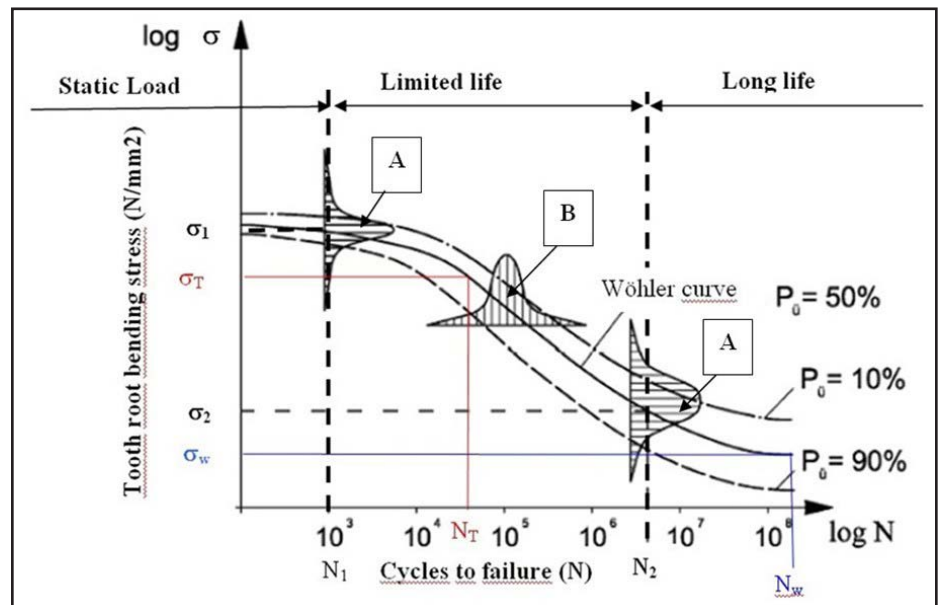

Figure 1 A Wöhler Curve diagram showing its three typical sections: Static Load; Limited Life; Long Life.
As a starting point, the Wöhler diagram is used, which corresponds to the material grade and heat treatment of the pinion and gearset (Fig. 1).
In Figure 1 the probability density distribution type "A" illustrates that the gear is able to bear the same loading number (N) at various load levels, depending on the reliability level of the material grade ($P_{ii} = 10\%, P_{ii} = 50\%, P_{ii} = 90\%$).